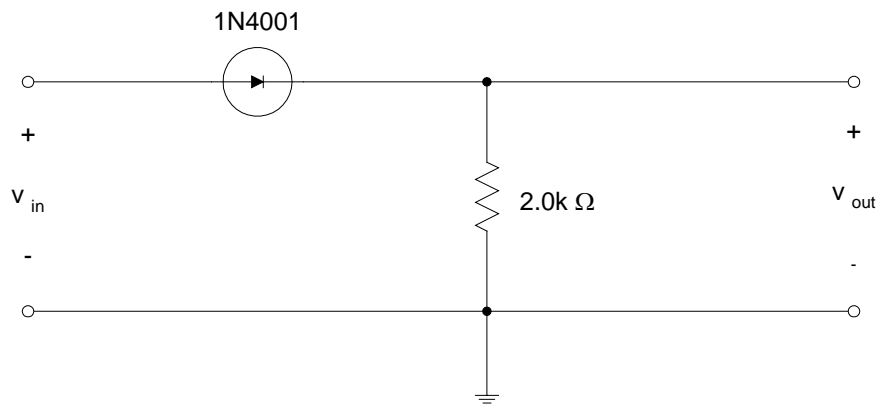

Figure 2: Circuit for Experiment 2.
2. Construct the circuit of Figure 2. Apply a 100 Hz, 6 V peak-peak signal from the signal generator to the input, v_{in} . Measure the peak value of the output voltage v_{out} and the fraction of each cycle that v_{out} is zero.